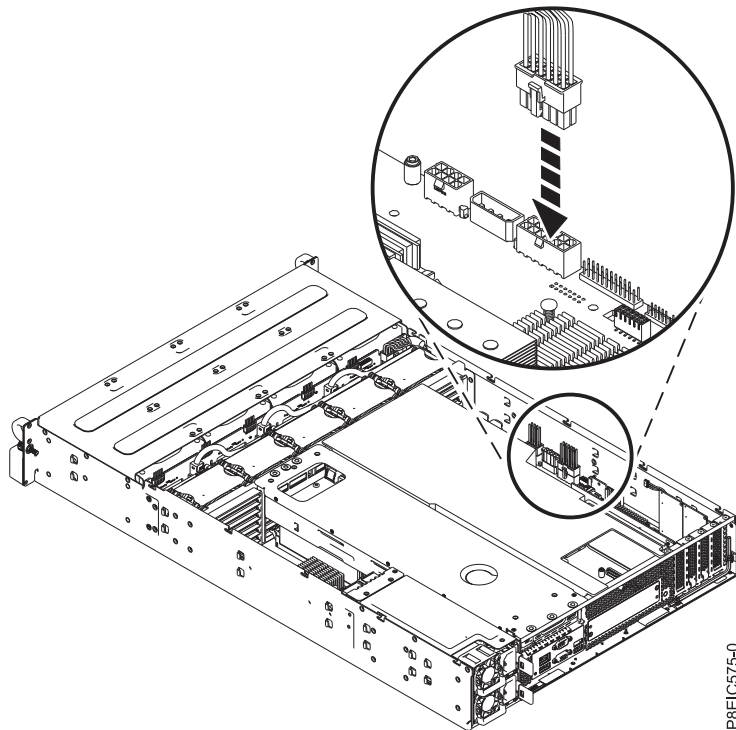

Figure 87. Connecting the front drive power cable
20. Replace the front drive power cable in the system backplane, as shown in Figure 87. Ensure that the cable latch clip snaps into place on the connector.